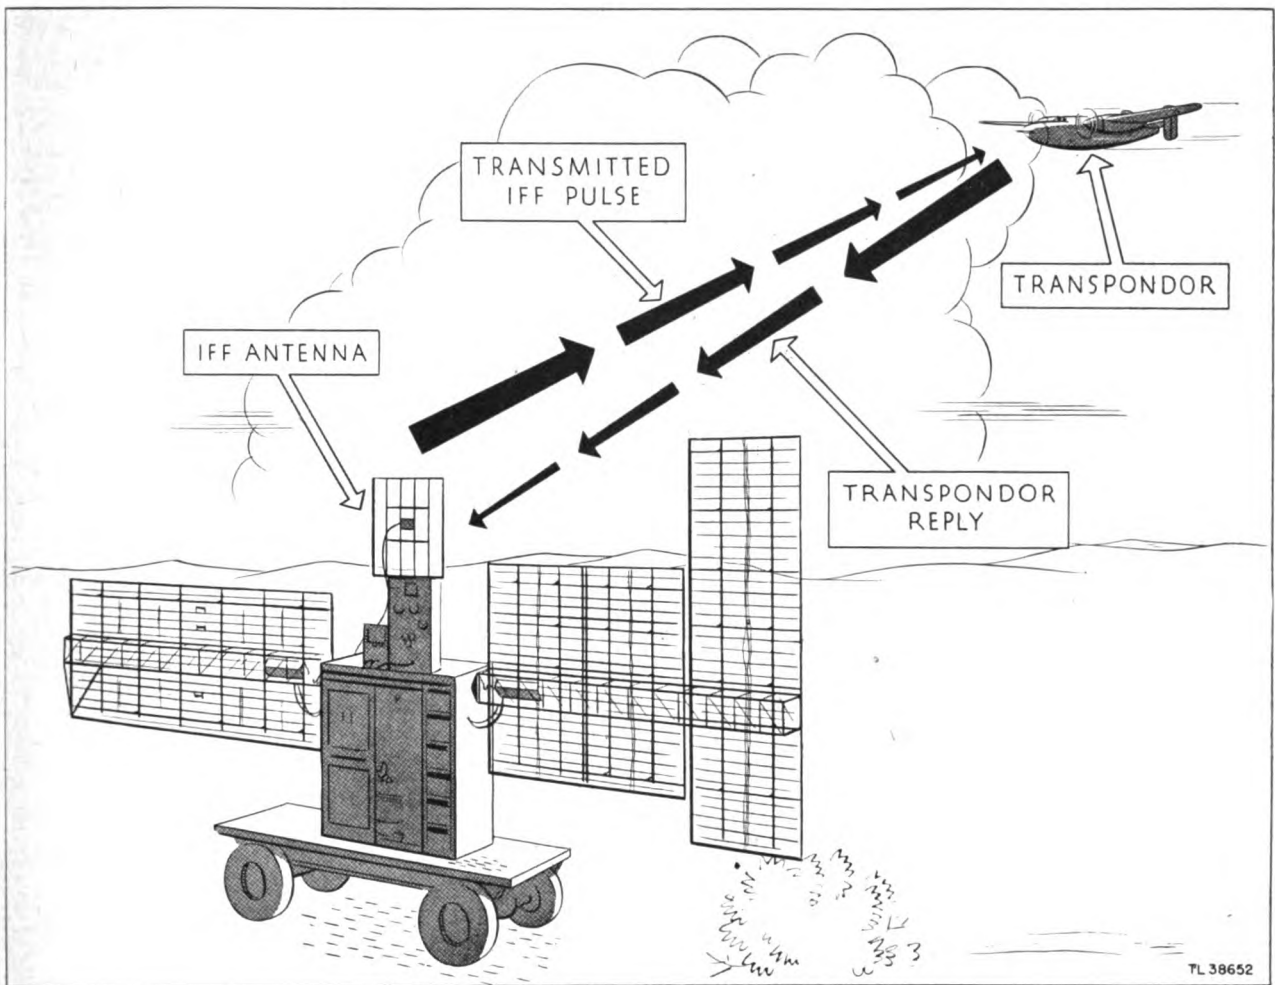

Figure 2. Principle of IFF operation.
b. (1) Figure 1 shows what takes place when a radar set detects a target; figure 2 shows how the IFF receives its reply. The two procedures are